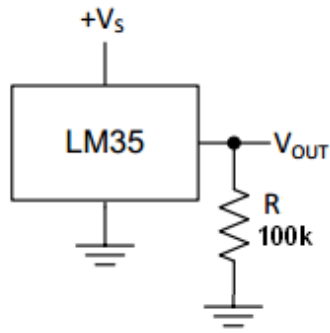

Figure 1
1. Connect the circuit as shown in Figure 1.
S.No	Temperature from Thermometer (°C)	Voltage drop across R, Vout (V)	T= Vout * (100 °C/V)	Error %